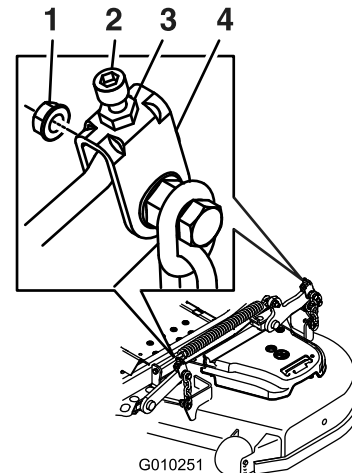

Figure 88
10. If needed, loosen the whizlock nut on the side of the yoke and the jam nut on top. Fine tune the screw adjuster by turning it to get 3 inch (7.6 mm) height (see Figure 88).
16. Fine tune the screw adjuster by turning it to get 3-1/4 inches (8.3 mm) height (Figure 88).